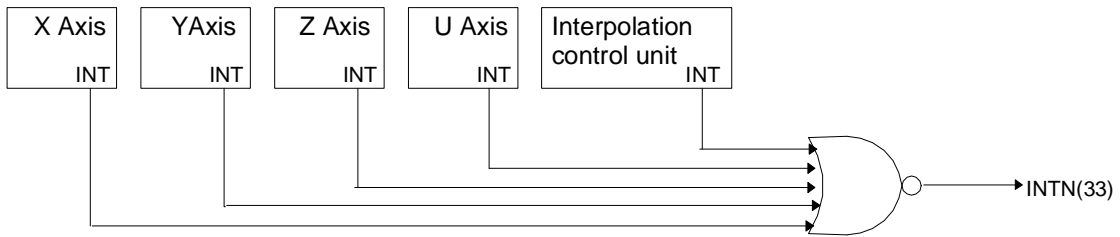

Figure 2.31 Interrupt Signal Path in IC
The interrupt is generated from X, Y, Z, or U axis, bit pattern interpolation or continuous interpolation. There is only one interrupt signal, INTN (33), to the host CPU. So, the signal will be OR calculated, then output, as shown in Fig. 2.31.